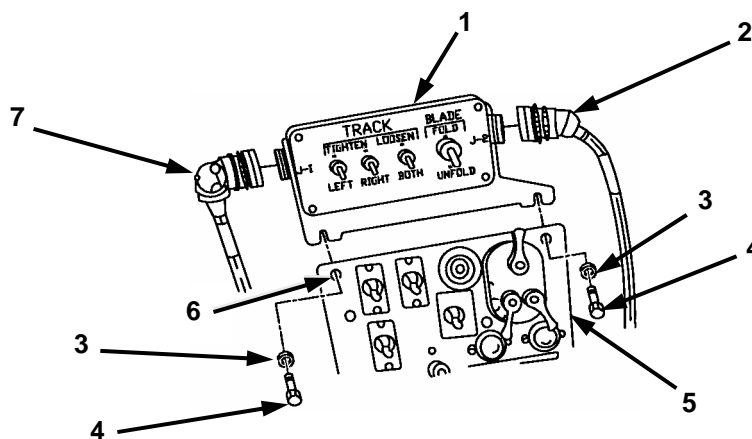

Figure 2-37. Track and Blade Control Box.
- o. Attach blade (1) to apron (2) with two pins (3).
5. Remove bolts and nut sleeves. Slide track and blade control box 12491619 (Figure 2-37, 1) behind instrument panel (5) and install two screws (4) and flat washers (3), retained from Section IV, step 4a, on instrument panel. And use tow nuts MS35649-2254 in place of nut sleeves 3D5074.